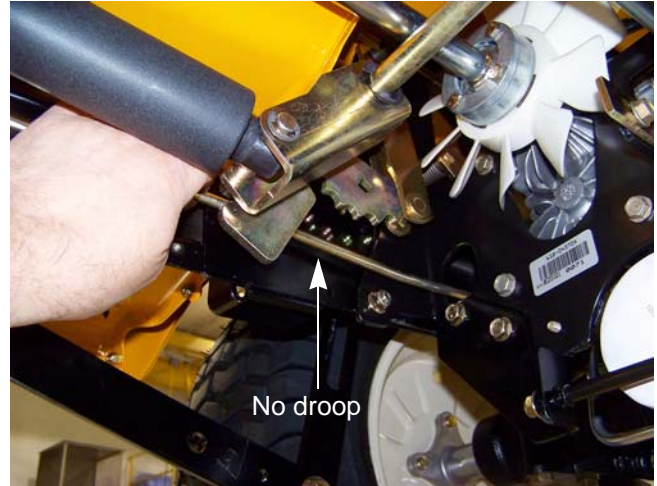

Figure 3.3
- The rod that connects the clutch/brake latch plate to the heavy brake actuator spring should not droop. See Figure 3.3.